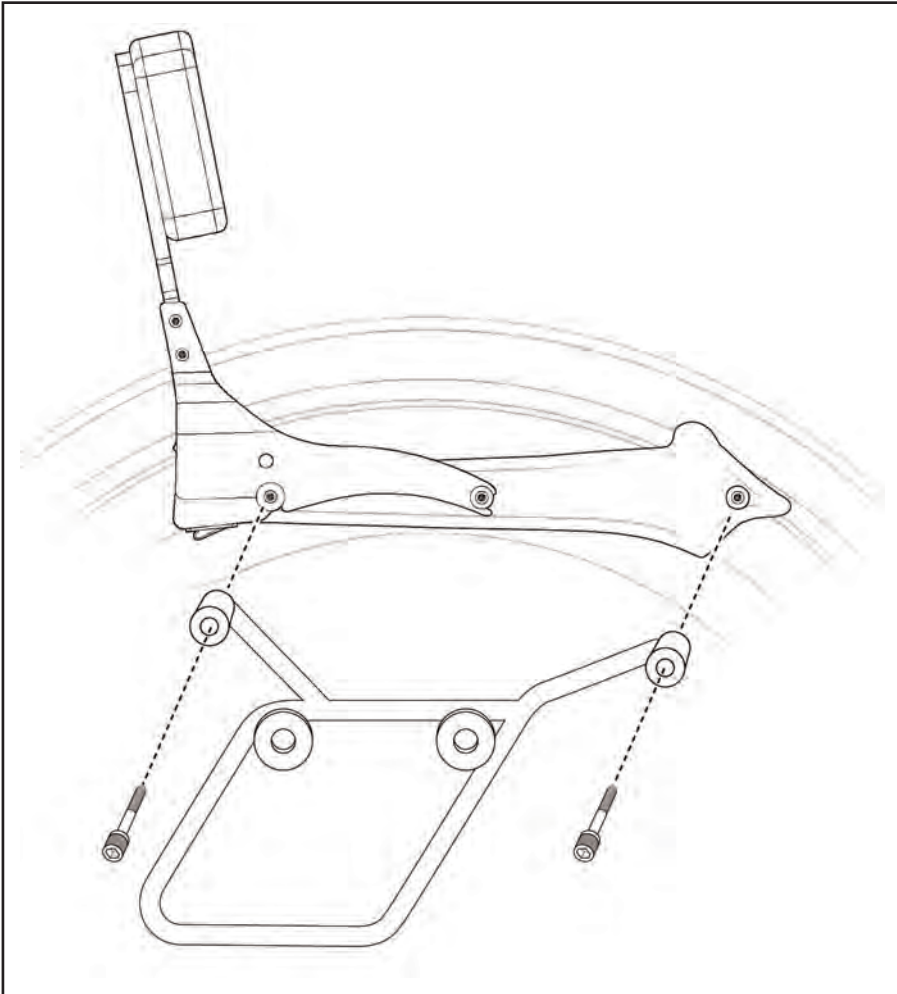

Figure 5
4. Install the frame bracket at the rear mount point using a M8-1.25 x 65 screw from bag #609C of the Cruisliner Kit. The rear bushing from Bag#609C will not be used when mounting Cruisliner bags with Paladin Backrest. **(6mm Hex Key) Figure 5**